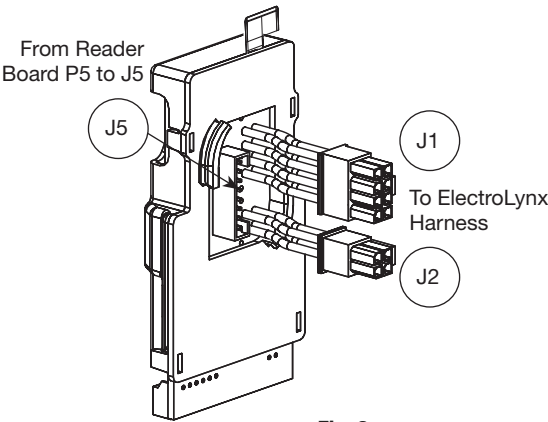

Fig. 8
1. Connect P3 (2-pin connector) from lockbody to J3 on module (Fig. 8).
2. Connect P4 (6-pin connector) from lockbody to J4 on module (Fig.8).
3. Connect ElectroLynx harness (4 and 8-pin) from door harness to ElectroLynx harness on interior PCB assembly (Fig 8).